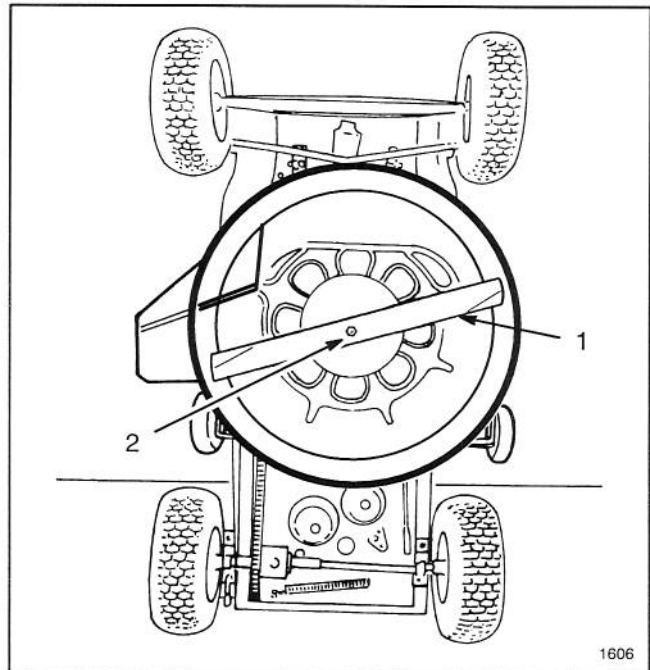

Figure 13
6. Grasp end of blade using a rag or thickly padded glove; then remove blade bolt, washer and blade (Fig. 13).
9. In sequence, reinstall blade, washer and blade bolt (Fig. 13). Tighten blade bolt to 45-60 ft-lb (61-81 N·m).